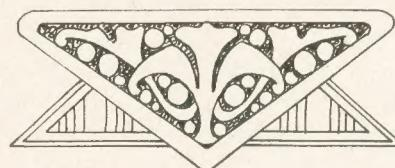
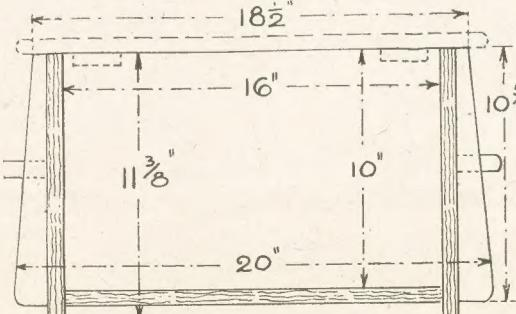

Fig. 2—Suggested panel decoration
Fig. 3—Side elevation of box
A general view of the finished box is given in Fig. 2, and from this it will be seen how the front and the back of it are made to project beyond the ends with rails between to form suitable handles. Fig. 3 is a sectional view of the box, showing the internal dimensions as being 16ins. by 10ins. and 10ins. deep.
The sides are shaped from pieces of $\frac{1}{8}$ in. stuff 20ins. long by $10\frac{1}{8}$ ins. wide. The shaping at the ends of the boards is so simple that it can be got from the measurements shown in Fig. 3. This diagram also shows the relative position and measurements of the sides with the ends of the box.
A self-standing tunnel entrance can be made by bringing out two side wings (B) Fig. 2. Marked with stone course these look like the cutting walls one often sees when approaching a tunnel.